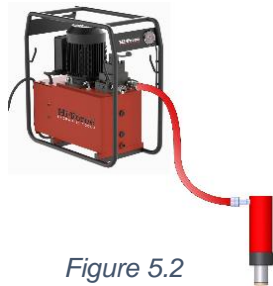

Figure 5.2
- With all hydraulic connections made, position the cylinder/s below the level of the hydraulic pump, as illustrated in figure 5.2.